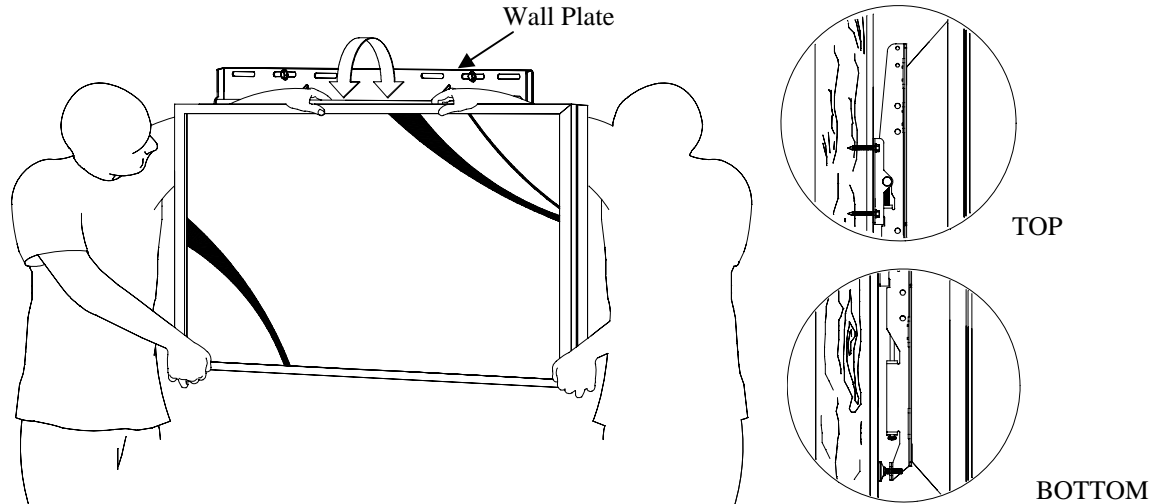

Figure 13. Securing The Flat Panel
1. Raise the flat panel with the mounting brackets secured to the flat panel and insert the top hooks from each bracket to the rod on the wall plate (Figure 13).